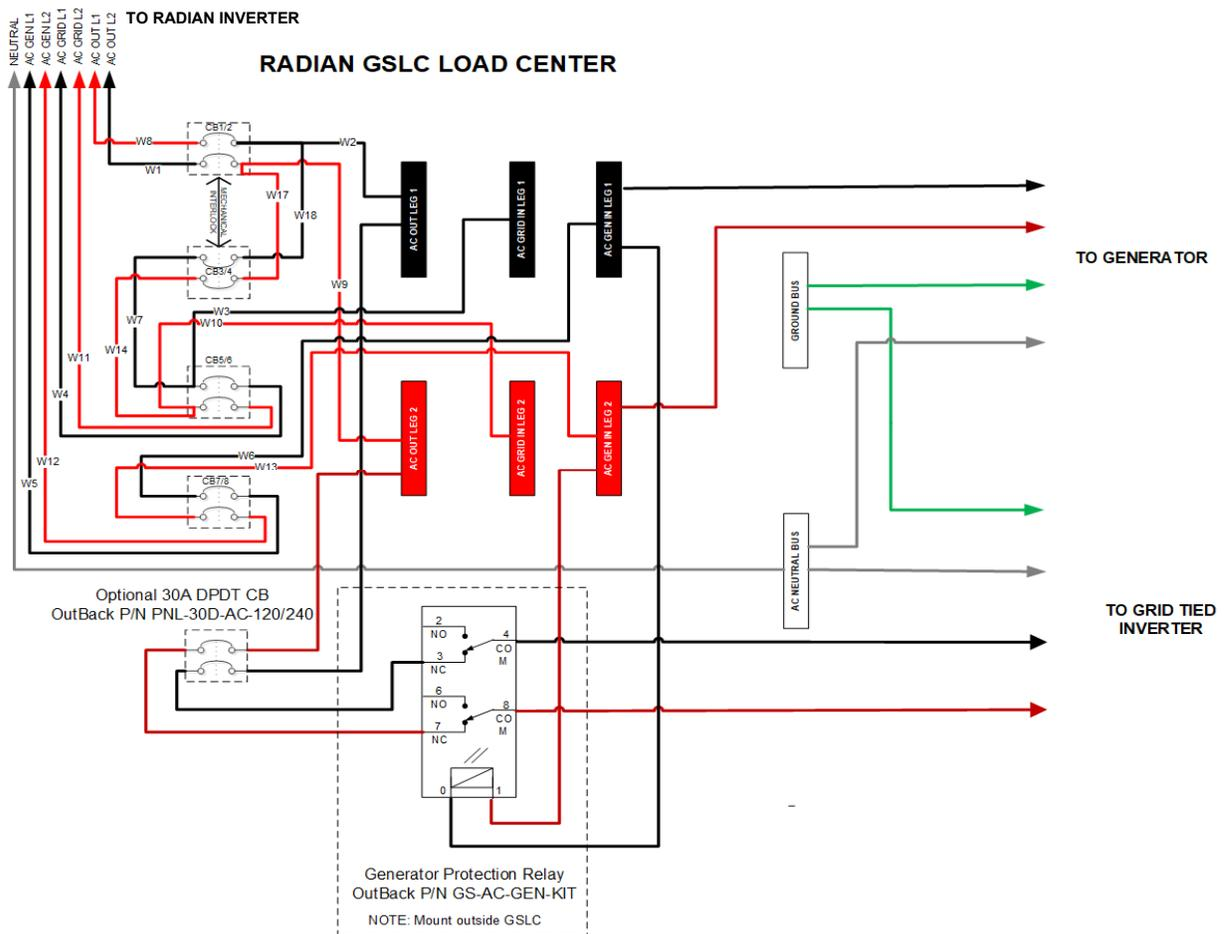

Figure 8 – Generator Protection Relay and GDI Disconnect
Figure 8 shows the normal operation with the Radian inverter connected to the GDI through the 2PDT relay. Should the generator ever start — automatically or manually — the live AC voltage at the GSLC **GEN** AC inputs will activate the 2PDT relay coils and force the normally closed (NC) contacts to the normally open (NO) position which opens the GDI connection so there is no danger of backfeeding the generator from the GDI.
When using the lockout relay, the generator L1 and L2 phases can be connected to the **GEN IN** bus bars, with the generator ground and neutral connected to their respective bus bars. The **AC GEN IN** L1 and L2 bus bar connections are connected to the relay coil terminals. The GDI L1 and L2 connections can then be made to the 2PDT common relay contacts (pins 4 & 5) as shown in Figure 8. The NC contacts (pins 3 & 7) are then connected to the **AC OUTPUT** bus bars.